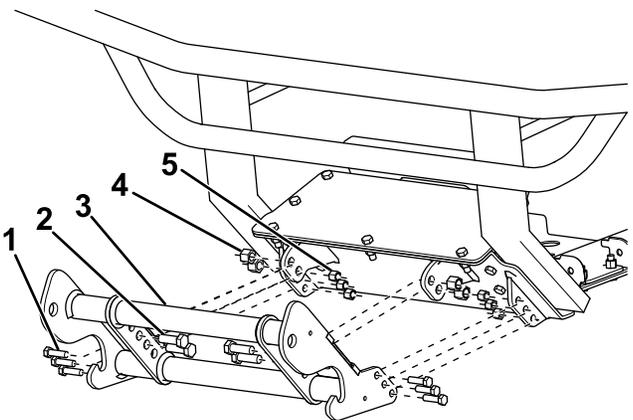

Figure 5
10. Secure the outside of the pushbeam assembly to the skid plate using 6 bolts (3/8 inch) and locknuts (Figure 5).
11. Secure the inside of the pushbeam assembly to the skid plate using 4 bolts (1/2 inch) and locknuts (Figure 5).